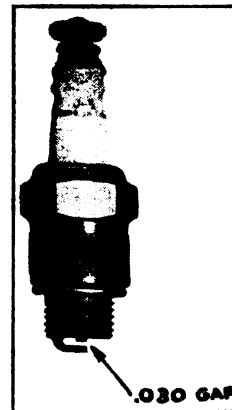

FIG. 9—
a. Spark Plug.—If engine fails to start, starts hard or misses, the spark plug may be damaged or dirty. Remove from cylinder head and shield (92), first disconnecting magneto high tension wire (25). Then reattach high tension wire to spark plug and lay plug on the cylinder. Spin motor to check spark. If no spark occurs at the spark plug points, clean out plug or install a new one.
Always use Champion J5 spark plug, or one in equivalent heat range. Point gap should be .030. Make certain gasket (108) is on spark plug when installing in engine. (See Fig. 9, Page 20.)